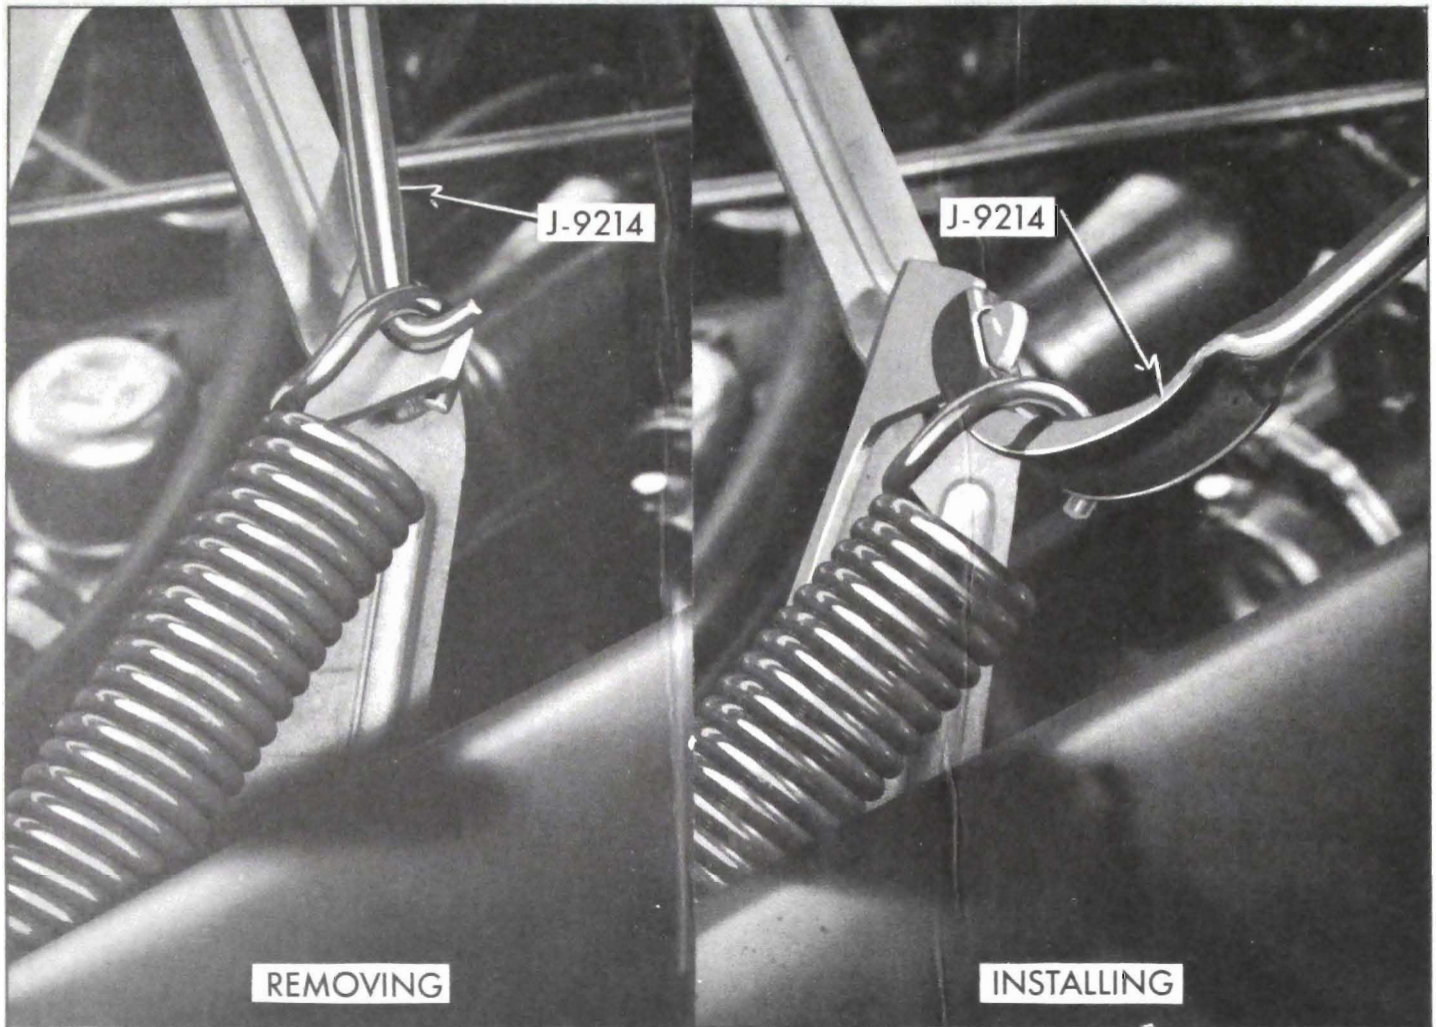

Figure 12-5—Removing and Installing Hood Hinge Spring
2. To remove hood spring insert Remover and Installer J-9214 through loop in forward end of spring. Push tool toward rear of car using hinge as a pivot and carefully remove spring from notch. See Figure 12-5.
spring. Push tool upward, using hinge as a pivot, and seat spring into notch. See Figure 12-5.